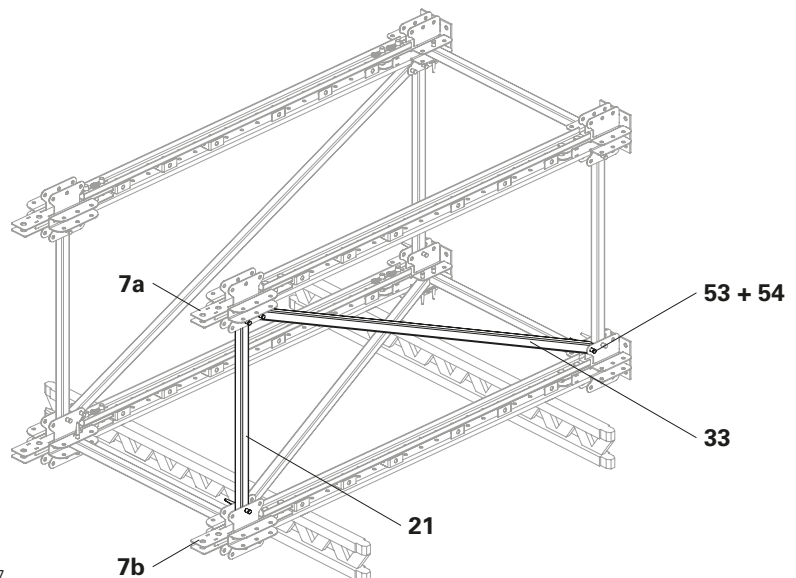

Fig. A1.17
8. Fix the Horizontal Post 150 (**21**) in the middle holes of the Vertical Connectors ATS (**7a**) and (**7b**) using fitting pins Ø 21 x 120 (**53**) and secure with cotter pins 4/1 (**54**). (Fig. A1.17)